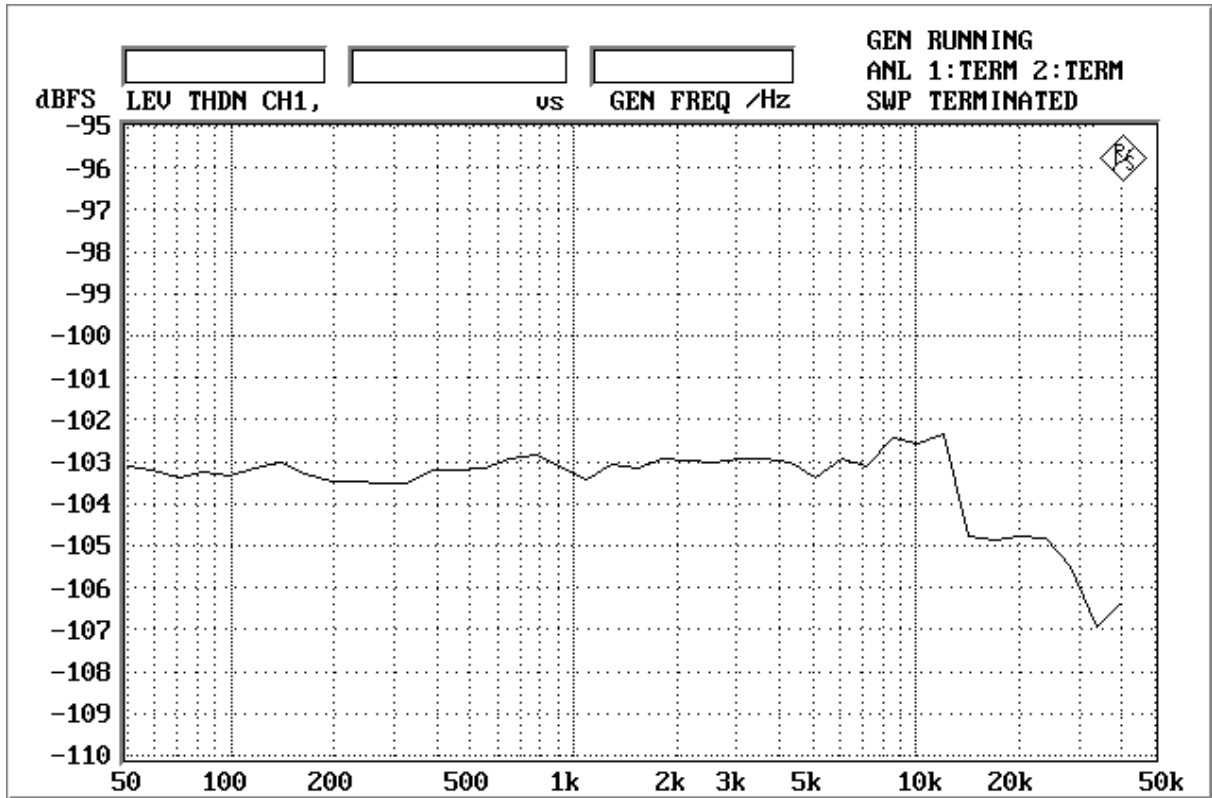

Fig.14 THD+N vs. Input frequency (Level = -1dB)
- Figure 14. THD+N vs Input Frequency (Input level = -1dB)